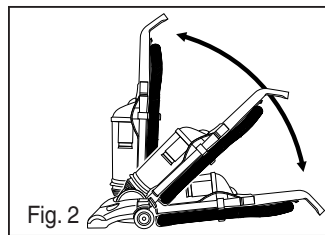

Fig. 2
- 2) Use handle release to lower handle flat onto floor (Fig. 2).